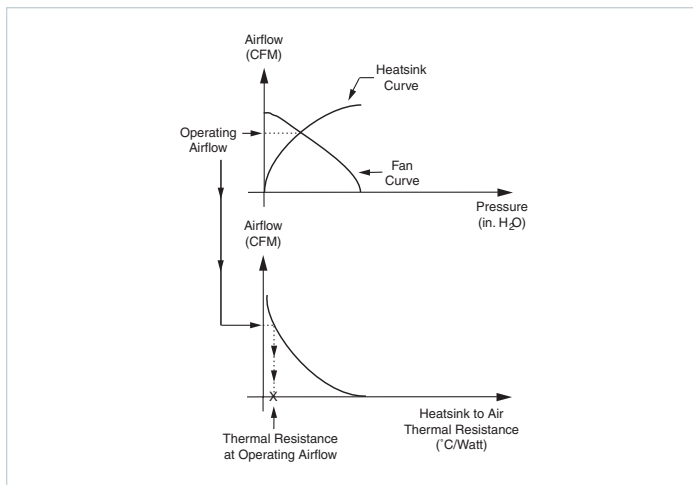

Figure 20.7 — Airflow vs. resistance
2. Selection of a heat sink / fan combination requires that forced convection data for both the heat sink and fan be available. Forced convection characteristics for heat sinks define both heat sink-to-air thermal resistance and pressure drop through the heat sink as a function of airflow. Fan characteristics define airflow as a function of pressure drop. The intersection point of the airflow versus pressure curves for the fan and heat sink will define the operating airflow through the heat sink. (Figure 20.7) The heat sink-to-air thermal resistance for this airflow may be read directly off the airflow versus resistance curve for the heat sink.